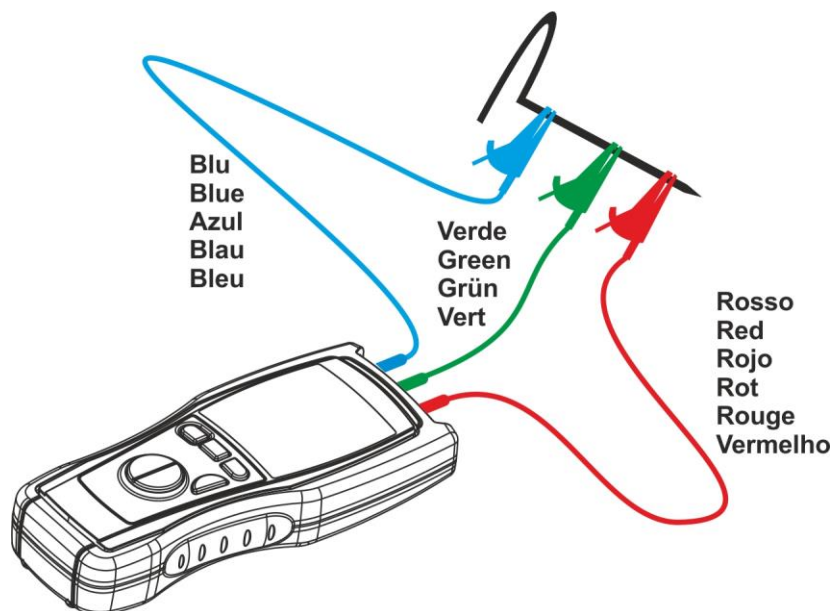

Fig. 5: Instrument's wiring for cables' zero setting under EARTH-3W mode
5. Short-circuit the measuring cables' ends (see Fig. 5) paying attention that the crocodiles' metal parts make proper contact to each other. To get a safe connection one of the rods provided with the instrument can be used.